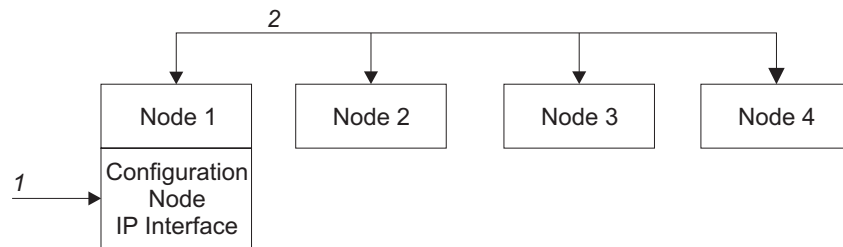

Figure 4. Configuration node
Figure 4 shows an example cluster containing four nodes. Node 1 has been designated the configuration node. User requests (1) are targeted at Node 1.